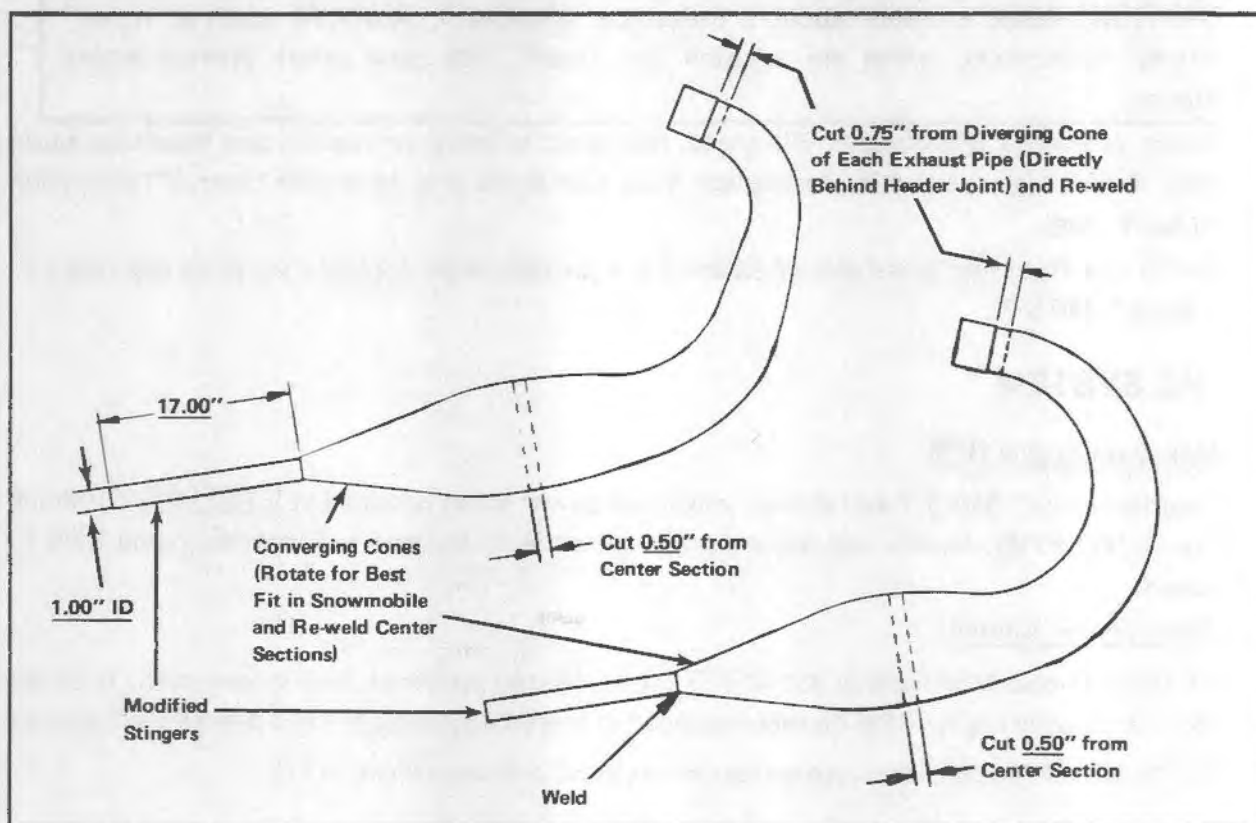

Figure 2. 340 S/T "Modified-Stock" Exhaust Pipes
1. Cut 0.75" (19.05mm) from diverging cone of each exhaust pipe directly behind header joint. (Figure 2)
1. Cut 0.50" (12.70mm) from center section (at widest part) of each exhaust pipe. (Figure 2)
*NOTE: Converging cone of exhaust pipes may have to be cut back slightly so that inside diameter (ID) of cones is enlarged to 1.00" (25.40mm) (same ID as replacement stinger).*
2. Weld modified stingers [1.00" ID x 0.040" thick (approximately) x 17.00" long (25.40mm x 1.02mm x 43.18cm) - Figure 2] to converging cones. Be sure that welds are smooth and do not restrict exhaust.